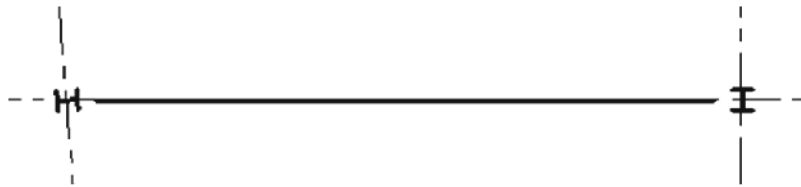

Figure 7–71
3. In a plan view, which of the following changes the display to show the stick symbol for beams, as shown in Figure 7–71?